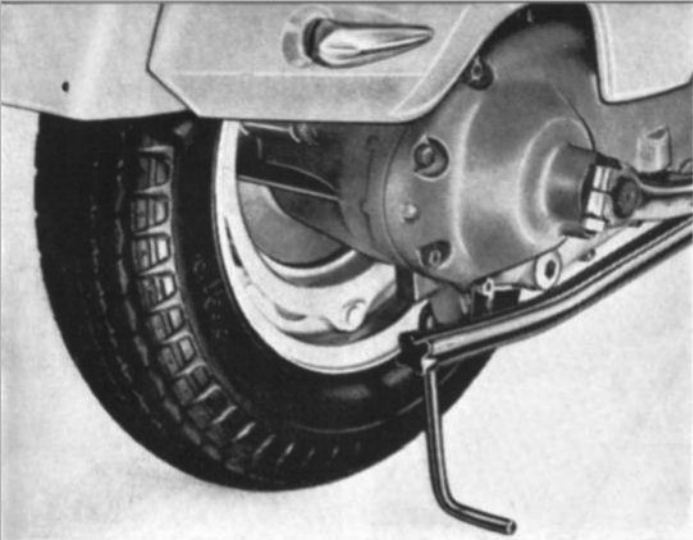

Fig. 9
- fit the wheel lift stand, supplied in kit, to the lug on crankcase (see fig 9);